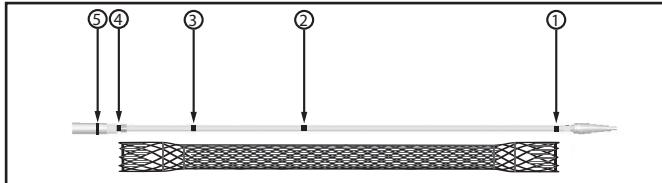
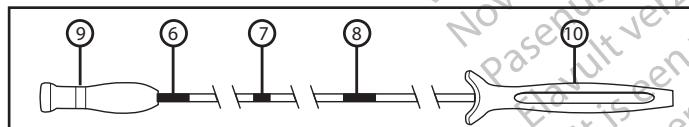

Figure 2. Delivery System and Radiopaque (RO) Markers
Figure 3. Delivery System, Visual Markers and Handles
There are three visual markers on the delivery system handle to aid in stent placement while using endoscopic visualization (Figure 3). The most distal visual marker indicates the stent is fully constrained on the delivery system (Figure 3 #6), one visual marker indicates that the stent is 50% deployed (mid-point) (Figure 3 #7) and the most proximal visual marker indicates the point at which stent reconstraint is no longer possible (Figure 3 #8).
There are five radiopaque (RO) markers to aid in the deployment of the stent while using fluoroscopy (Figure 2). There are two RO markers on the inner tube of the delivery system identifying the ends of the constrained stent (Figure 2, #1 and #4). Between these RO markers are two additional RO markers. One RO marker indicates the mid-point of the stent (Figure 2 #2). One RO marker on the interior tube indicates the point at which stent reconstraint is no longer possible (Figure 2 #3). The fifth RO marker at the leading end of the exterior tube indicates how far the stent has been deployed (Figure 2, #5).
If using fluoroscopic guidance, position the stent so marker 2 (figure 2) is in the center of the tumor or fistula. This ensures that the stent will properly bridge the tumor.
Begin stent deployment by holding the distal handle (farthest from the operator, Figure 3 #9) of the delivery system with one hand, and using the other hand, grasp the proximal handle (closest to the operator, Figure 3 #10) and hold this handle stationary. Between the handles is a segment with visual markers. These visual markers are intended to aid in stent deployment. Prior to deploying the stent, you can visualize a marker at the fully constrained/undeployed position (Figure 3 #5).
In order to deploy the stent, hold the distal handle (farthest from the operator, Figure 3 #9) with one hand and the proximal handle (handle closest to the operator, Figure 3 #10) with the other hand. To deploy the stent, slowly pull the distal handle toward the proximal handle while holding the proximal handle steady. Monitor the stent release fluoroscopically and/or endoscopically, keeping the markers on the delivery system between the identified stricture margins. If necessary, it is possible to stop deployment and adjust the stent position proximally without reconstraining the stent prior to passing the reconstraint marker (Figure 3 #8). If satisfied with stent placement, proceed with full deployment.
- The stent can be reconstrained at any point up to the reconstraint markers (radiopaque Figure 2, #3 and visual Figure 3, #8).
Note: The stent is fully constrained if visual marker (Figure 3, #6) is fully visible.
- C. Re-sheath the exterior tube of the delivery system by pushing the distal handle (Figure 3 #9) away from the operator. Slowly withdraw the delivery system and guidewire.